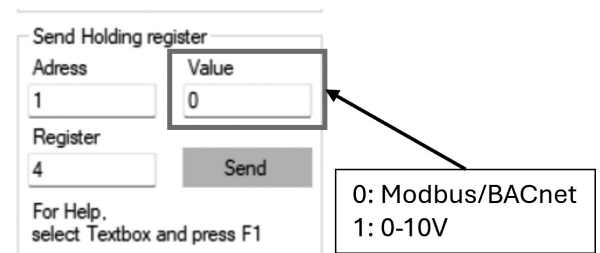

Fig. 13 — ZA Set Holding “Register 4” Type
- “**Register**” type “4” needs be set based on the communication type used. For Modbus/BACnet control, set “**Value**” to “0”. For 0-10V control, set “**Value**” to “1”. See Fig. 13.